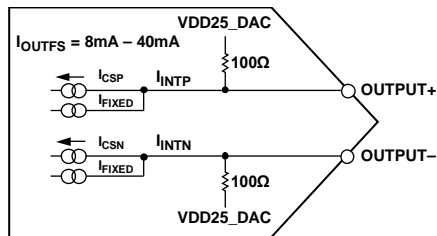

Figure 188. Equivalent DAC Output Circuit
The AD9161/AD9162 provide complementary current outputs, OUTPUT+ and OUTPUT-, that sink current from an external load that is referenced to the 2.5 V VDD25_DAC supply. Figure 188 shows an equivalent output circuit for the DAC. Compared to most current output DACs of this type, the outputs of the AD9161/AD9162 consist of a constant current (I_{FIXED}), and a peak differential ac current, I_{CS} (I_{CS} = I_{CSP} + I_{CSN}). These two currents combine to form the I_{INTX} currents shown in Figure 188. The internal currents, I_{INTP} and I_{INTN}, are sent to the output pin and to an input termination resistance equivalent to 100 Ω pulled to the VDD25_DAC supply (R_{INT}). This termination serves to divide the output current based on the external termination resistors that are pulled to VDD25_DAC.
The example shown in Figure 188 can be modeled as a pair of dc current sources that source a current of I_{OUT} to each output. This differential ac current source is used to model the signal (that is, a digital code) dependent nature of the DAC output. The polarity and signal dependency of this ac current source are related to the digital code (F) by the following equation: